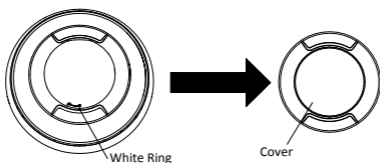

Figure 2-20 Remove the Cover
- 1) Rotate the white ring clockwise on the top of the camera, and remove the cover, as shown Figure 2-20.